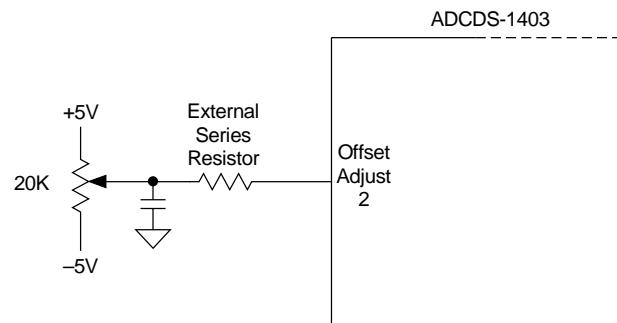
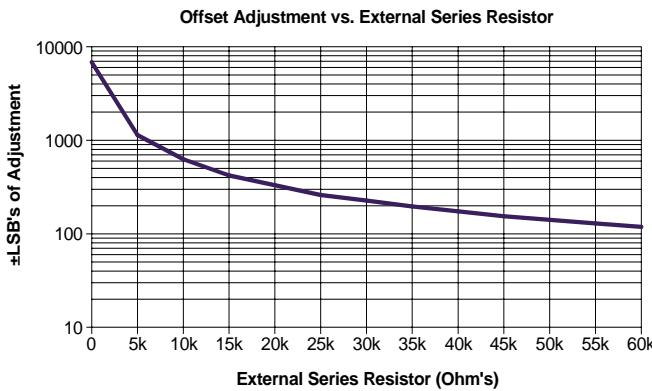

Figure 3. Offset Adjustment Circuit
Figure 6. Offset Adjustment vs. External Series Resistor
3. If using the suggested offset and gain adjust circuits (Figure 3 & 5), place them as close to the ADCDS-1403's package as possible.
Manual offset adjustment for the ADCDS-1403 can be accomplished using the adjustment circuit shown in Figure 3. A software controlled D/A converter can be substituted for the 20K Ω potentiometer. The offset adjustment feature allows the user to adjust the Offset/Dark Current level of the ADCDS-1403 until the output bits are 00 0000 0000 0000 and the LSB flickers between 0 and 1. Offset adjust should be performed before gain adjust to avoid interaction. The ADCDS-1403's offset adjustment is dependent on the value of the external series resistor used in the offset adjust circuit (Figure 3). The Offset Adjustment graph (Figure 6) illustrates the typical relationship between the external series resistor value and its offset adjustment capability utilizing $\pm 5V$ supplies.